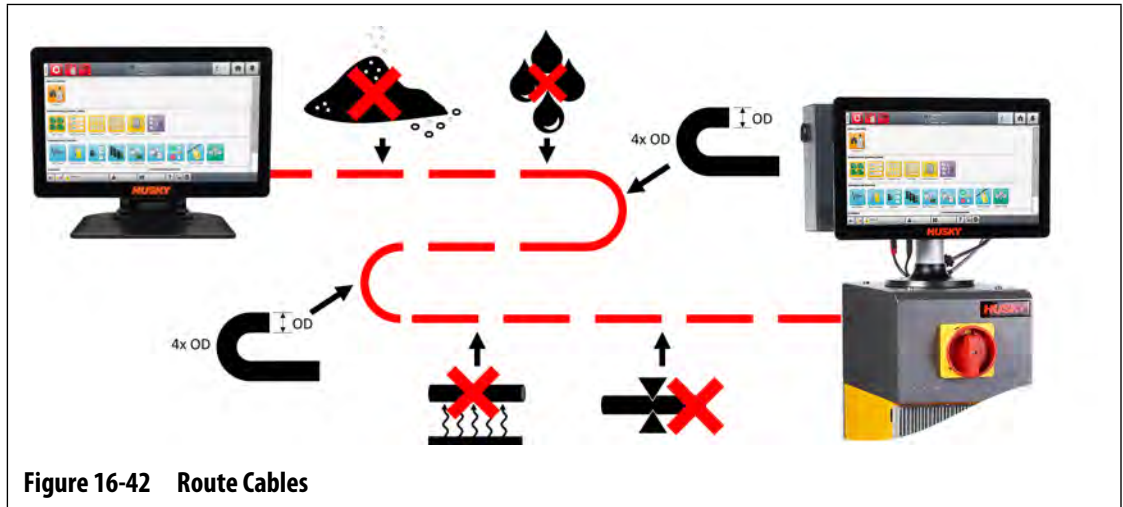

Figure 16-42 Route Cables
7. Route the USB and HDMI-to-DVI Extension cables from the MCU to the location of the secondary touch monitor. Refer to Figure 16-42.